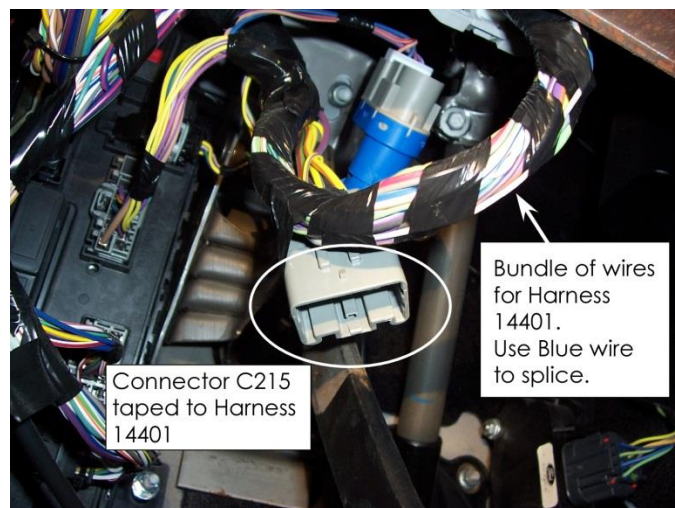
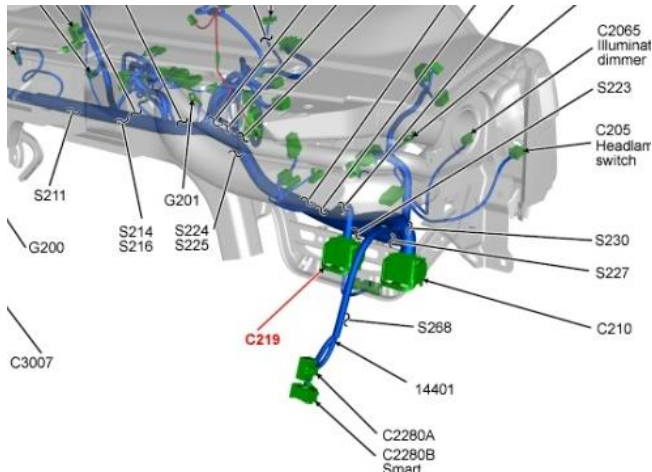

Figure 47. Under dash wiring. Note: Connector J31 not shown connected for clarity.
Figure 48. Connector C219 location under dash, driver side.
7. Locate Ford connector C219 and wire harness 14401 underneath driver side dash. See Figure 47 and Figure 48.